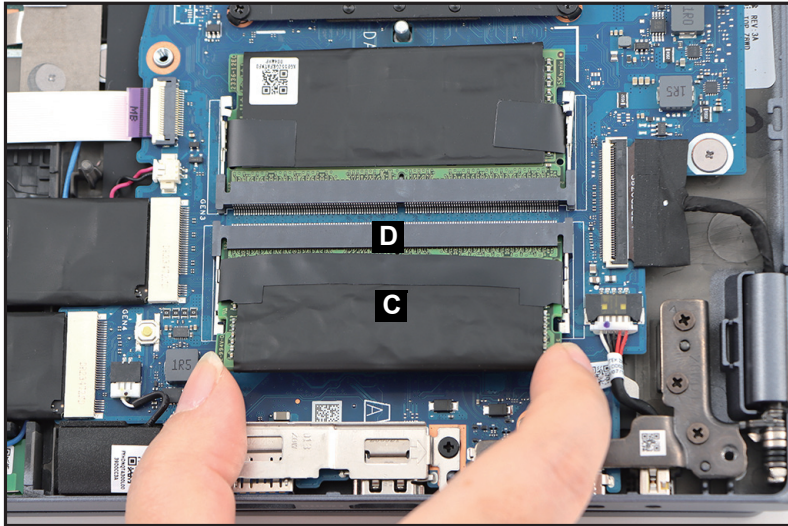

Figure 1-27. DIMM Module Removal
3. Disconnect the DIMM module (C) from the mainboard connector (D) (Figure 1-27). Then remove the DIMM module.